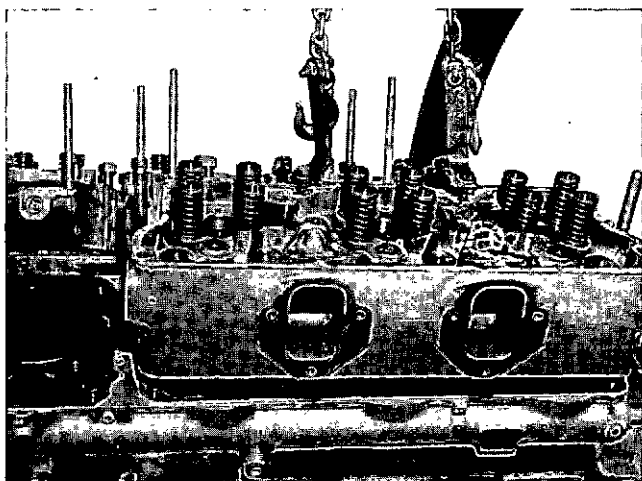

Fig. 0-34, V40065. Removing cylinder heads
3. Using suitable hoist, lift cylinder heads from cylinder block. Fig. 0-34.